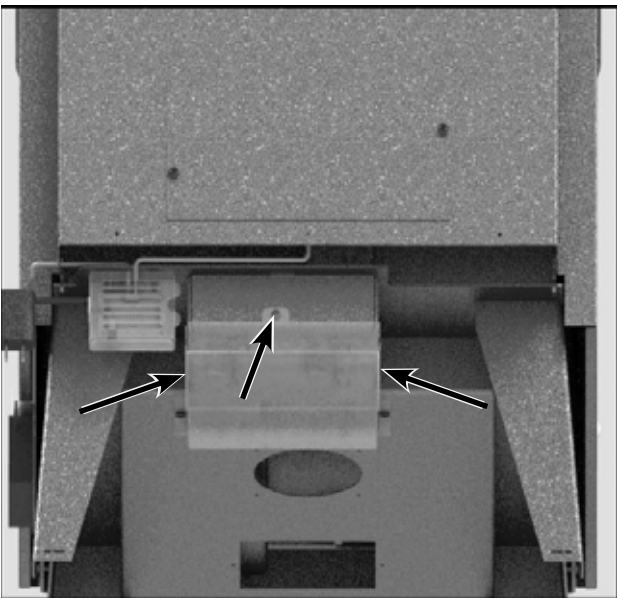

Figure 15: Motor Control cover.
1. Remove the motor cover by undoing the three screws located at the sides and in the back. Figure 15